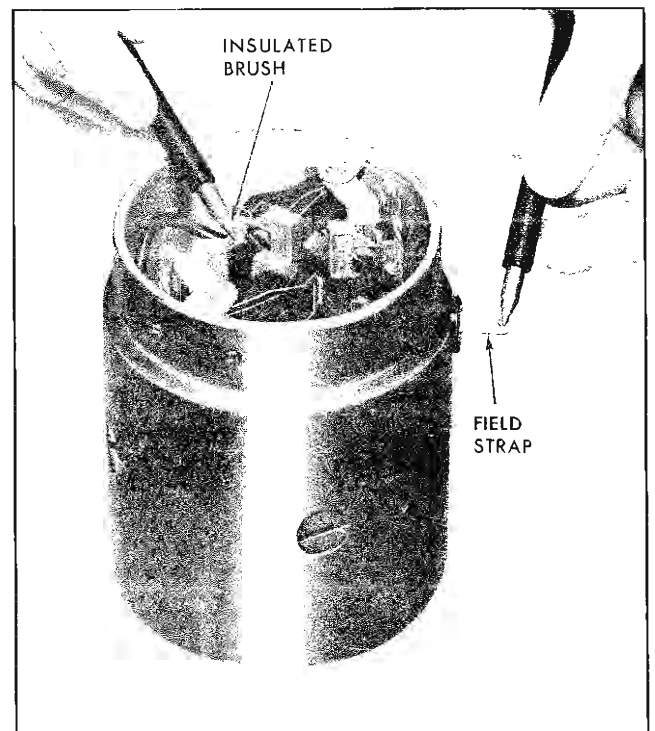

Fig. 11-9 Testing Field Coils for Open Circuit
2. Open—Touch one test lamp lead to insulated brush and one lead to field connector strap (Fig. 11-9). If lamp does not light, the series field coils are open.